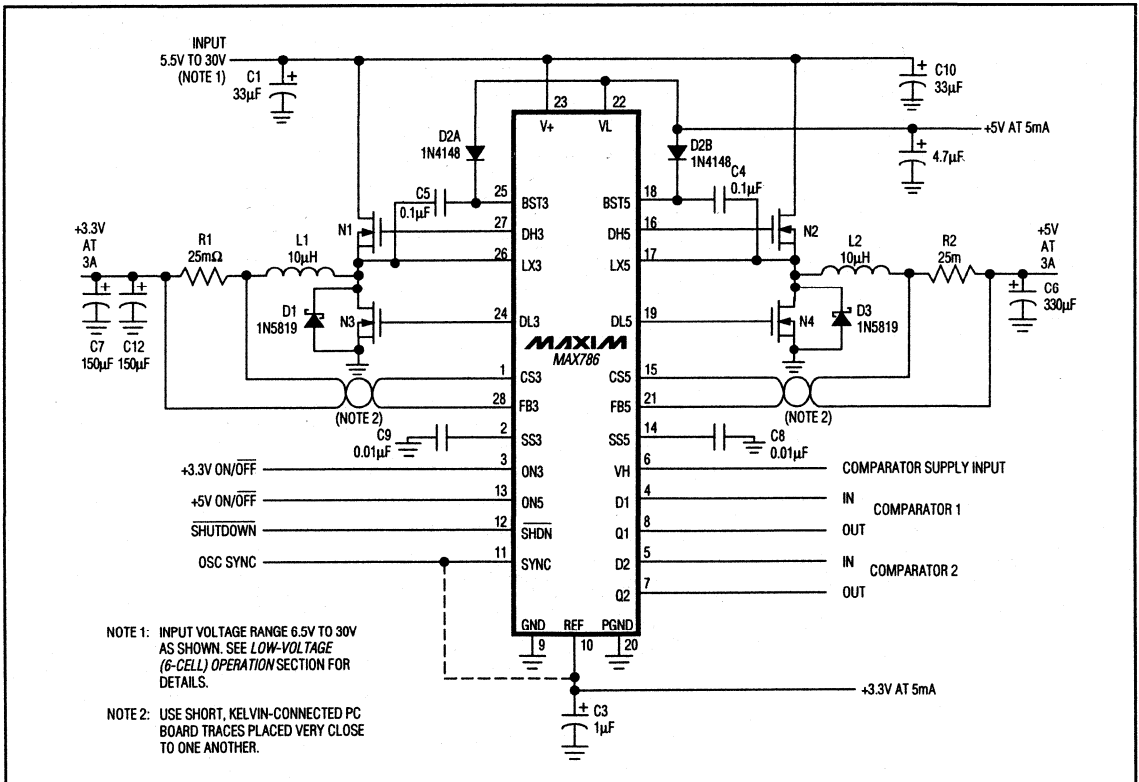
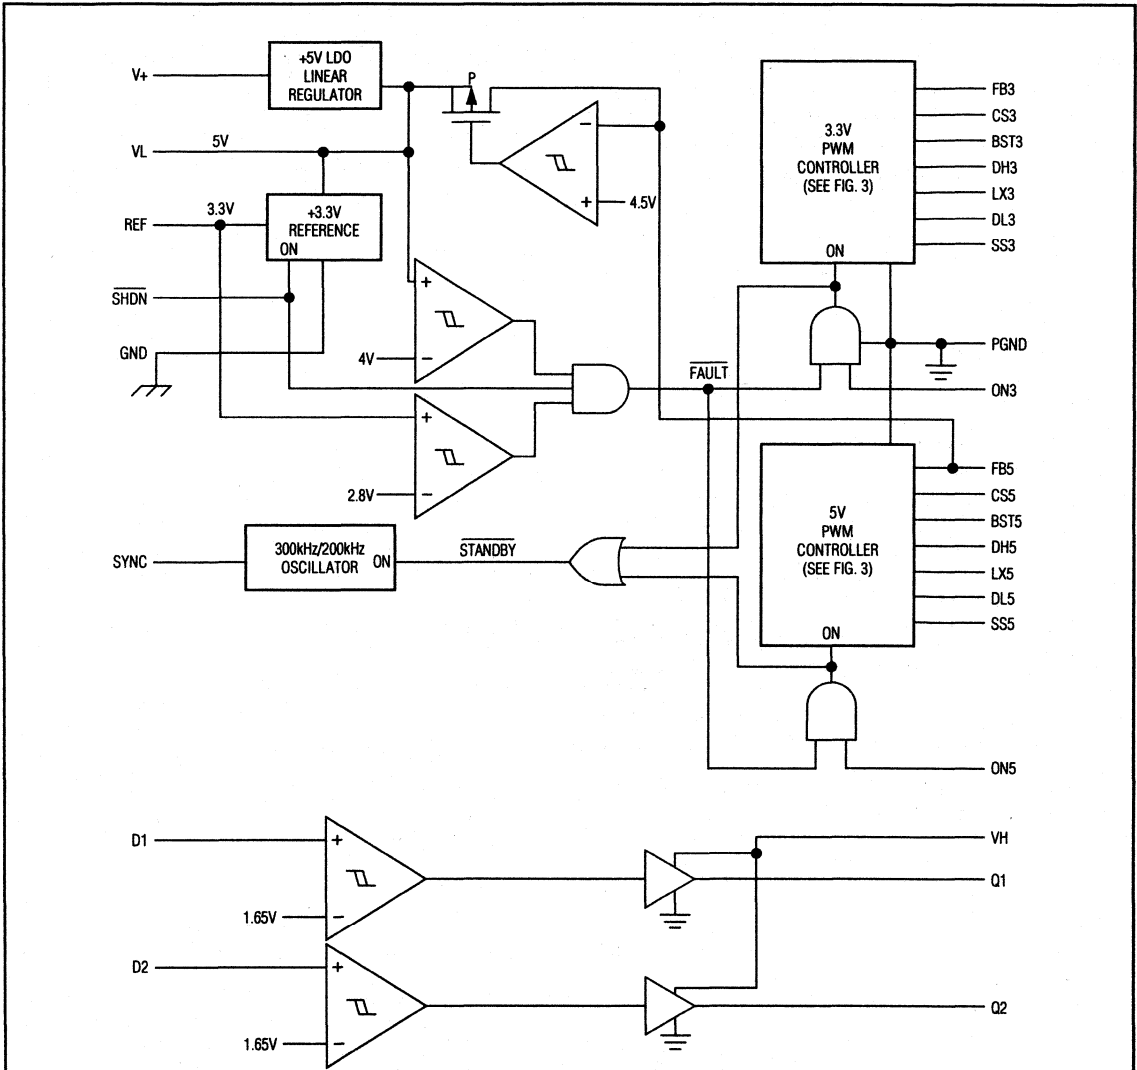

Figure 1. MAX786 Application Circuit
Figure 2. MAX786 Block Diagram
(Circuit of Figure 1, $T_A = +25^\circ\text{C}$, unless otherwise noted.)
The MAX786 converts a 5.5V to 30V input to four outputs (Figure 1). It produces two high-power, PWM, switch-mode supplies, one at +5V and the other at +3.3V. The two supplies operate at either 300kHz or 200kHz, allowing for small external components. Output current capability depends on external components, and can exceed 6A on each supply. An internal 5V, 5mA supply (VL) and a 3.3V, 5mA reference voltage are also generated via linear regulators, as shown in Figure 2. Fault protection circuitry shuts off the PWMs when the internal supplies lose regulation.
The +3.3V supply is generated by a current-mode, PWM step-down regulator using two N-channel MOSFETs, a rectifier, and an LC output filter (Figure 1). The gate-drive signal to the high-side MOSFET, which must exceed the battery voltage, is provided by a boost circuit that uses a 100nF capacitor connected to BST3.
The +5V output is produced by a current-mode, PWM step-down regulator, which is nearly identical to the +3.3V supply. The +5V supply's dropout voltage, as configured in Figure 1, is typically 400mV at 2A. As $V+$ approaches 5V, the +5V output gracefully falls with $V+$ until the VL regulator output hits its undervoltage-lockout threshold at 4V. At this point, the +5V supply turns off.
(See Figure 1 for Standard Application Circuit.)
Figure 1's schematic and Table 2's component list show values suitable for a 3A, +5V supply and a 3A, +3.3V supply. This circuit operates with input voltages from 6.5V to 30V, and maintains high efficiency with output currents between 5mA and 3A (see the *Typical Operating Characteristics*). This circuit's components may be changed if the design guidelines described in this section are used—but before beginning the design, the following information should be firmly established: